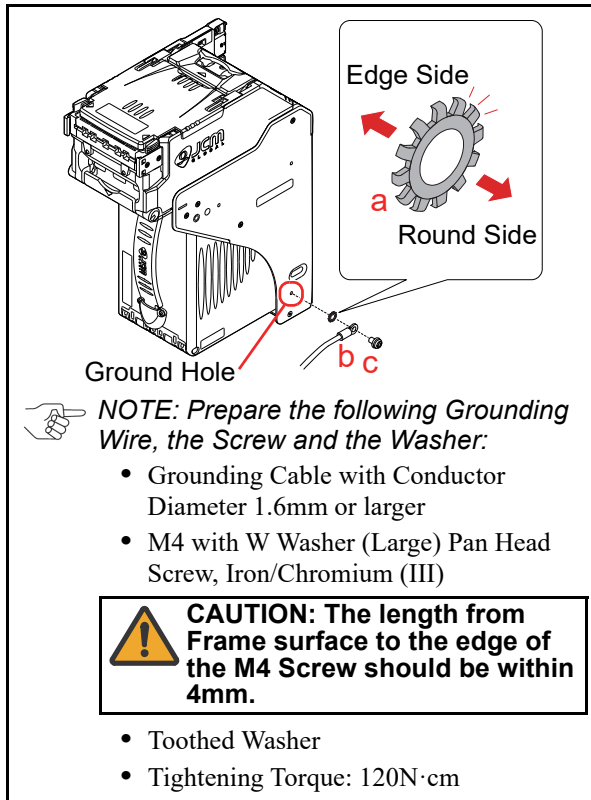

Figure 4 Grounding
1. Install the Toothed Washer (Figure 4 a) and the Grounding Wire (Figure 4 b) into one of the Ground Holes on the side in order.
2. Tighten the single (1) Screw (Figure 4 c) to secure the Wire and the Washer.